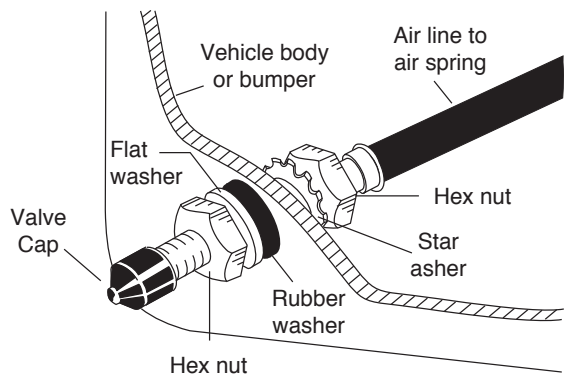

fig. 7
14. Cut the air line assembly into the equal parts. Drill 5/16" hole for inflation valves and mount as illustrated. Rubber washer on the outside is for weather seal. (Fig. 7)